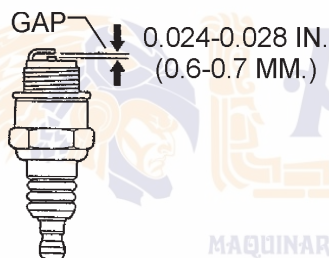

Figure 32. Spark Plug Gap
- Remove and clean the spark plug (Figure 32), then adjust the spark gap to 0.024 ~0.028 inch (0.6~0.7 mm). This unit has electronic ignition, which requires no adjustments.